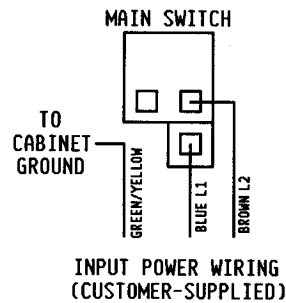

Figure 3-2 — Input Power Connections
4. Route (customer supplied) input power cable through a 15mm strain relief connector and connect leads to the main switch as shown in Figure 3-2.
Refer to Figures 3-2 thru 3-5 for typical installations and tubing routings.